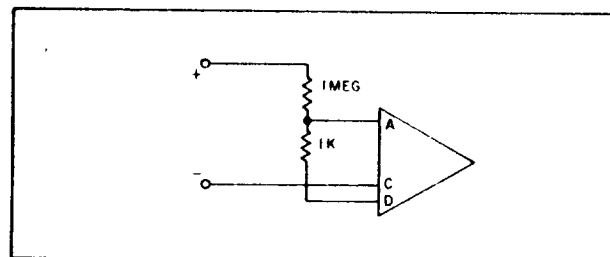

Figure 5-8. Single Ended Attenuator
- H. VOLTAGE DIVIDERS.** Voltage dividers reduce higher signal levels to the working range of the amplifier. Figure 5-8 illustrates a 1 megohm to 1000 ohm voltage divider, which reduces a voltage appearing across the inputs by a factor of 1000 to 1, converting millivolts to volts. As illustrated, this provides basically a single ended divider. Potentially hazardous conditions can exist by driving the negative or unattenuated side to some relatively high voltage.